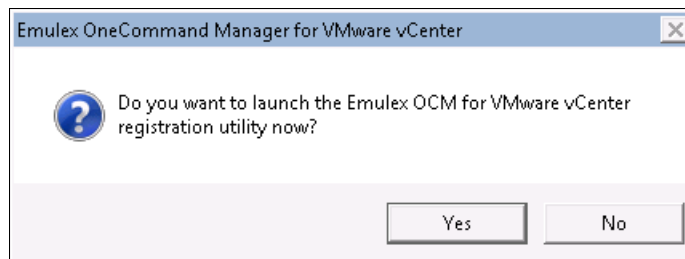

Figure 7-43 Dialog window
8. When prompted if you want to start the registration utility (Figure 7-43), select **Yes**.